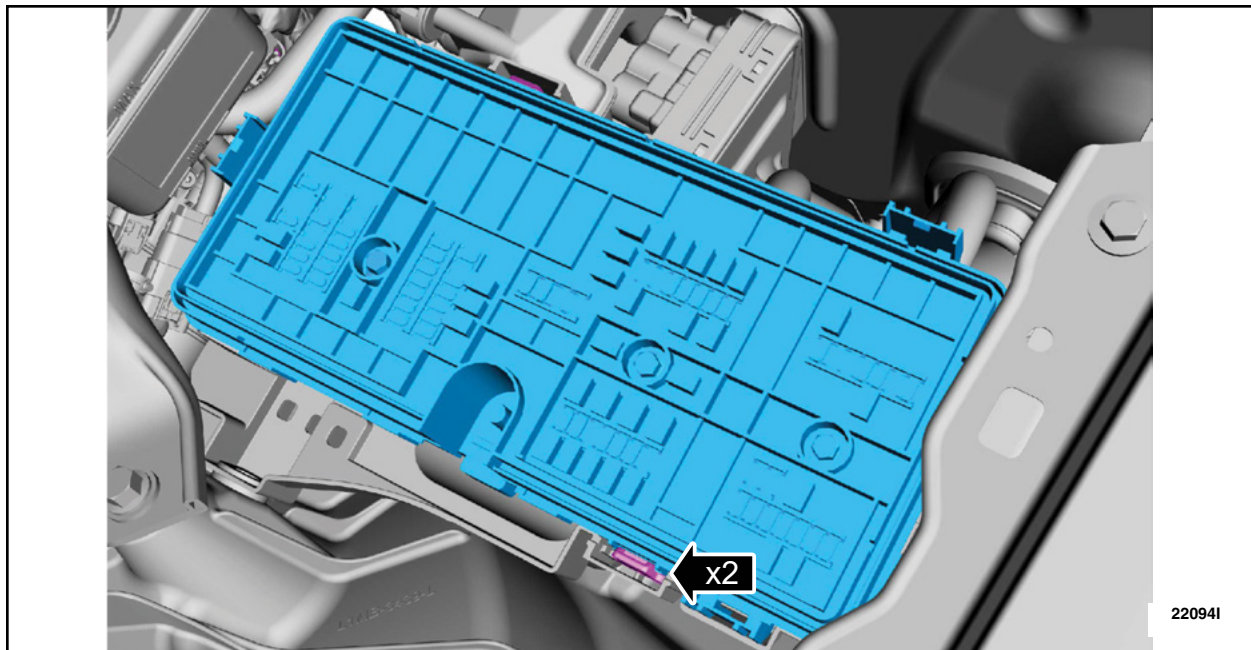

FIGURE 9
16. Release the tabs and remove the BCMC. See Figure 9.